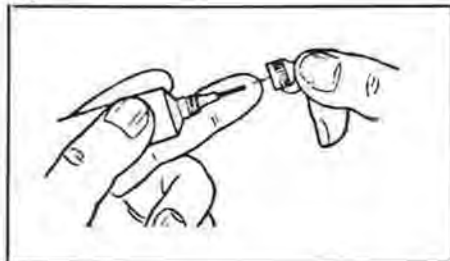

Figure 4
6. While allowing the cement to slightly dry and become tacky, clean end of hypo tube and replace cap wire in needle hole. See Figure 4 for easy insertion.